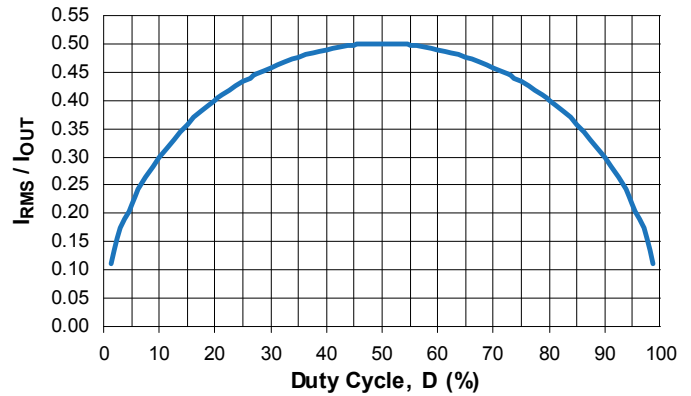

Figure 13: Normalized Input Capacitor Ripple versus Duty Cycle
The normalized input capacitor rms current versus duty cycle is shown in Figure 13. To use this graph, simply find the operational duty cycle (D) on the x-axis and determine the input/output current multiplier on the y-axis. For example, at a 20% duty